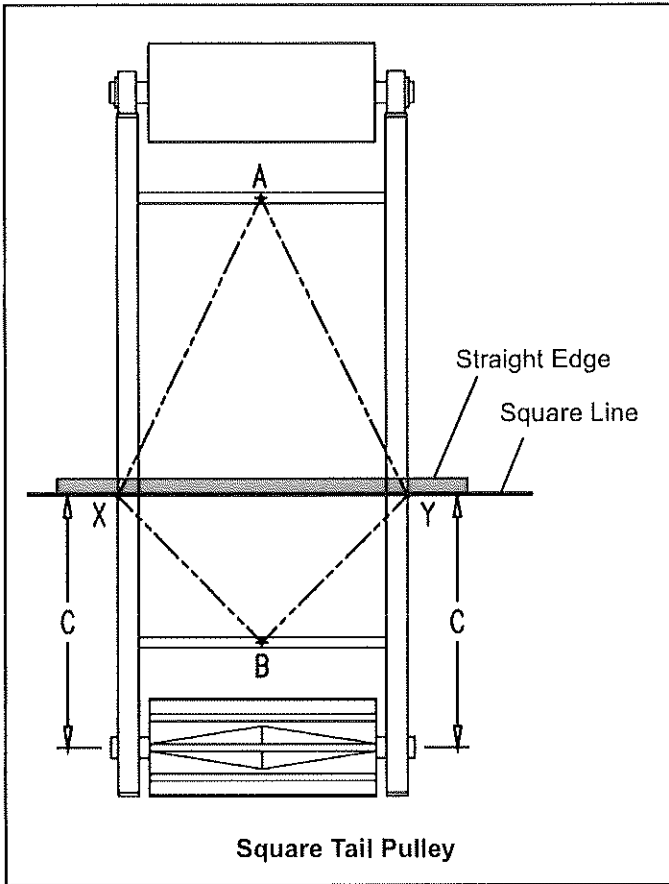

Figure 44
2. Square the tail pulley with the frame (**Figure 44**). Locate and mark point (A) at the midpoint of a conveyor cross member. Next, measure an arbitrary distance from point (A) to locate a point (X) on the edge of the conveyor frame. Then measure the same distance from point (A) to locate a point (Y) on the other edge of the conveyor frame. Line (XY) should now be square with the conveyor frame.
Clamp a straight edge to the conveyor frame directly on top of the square line. Any component on the conveyor can now be squared by measuring from the straight edge equal distance on each side. Example: To square the tail pulley measure equal distance (C) on each side (**Figure 44**).